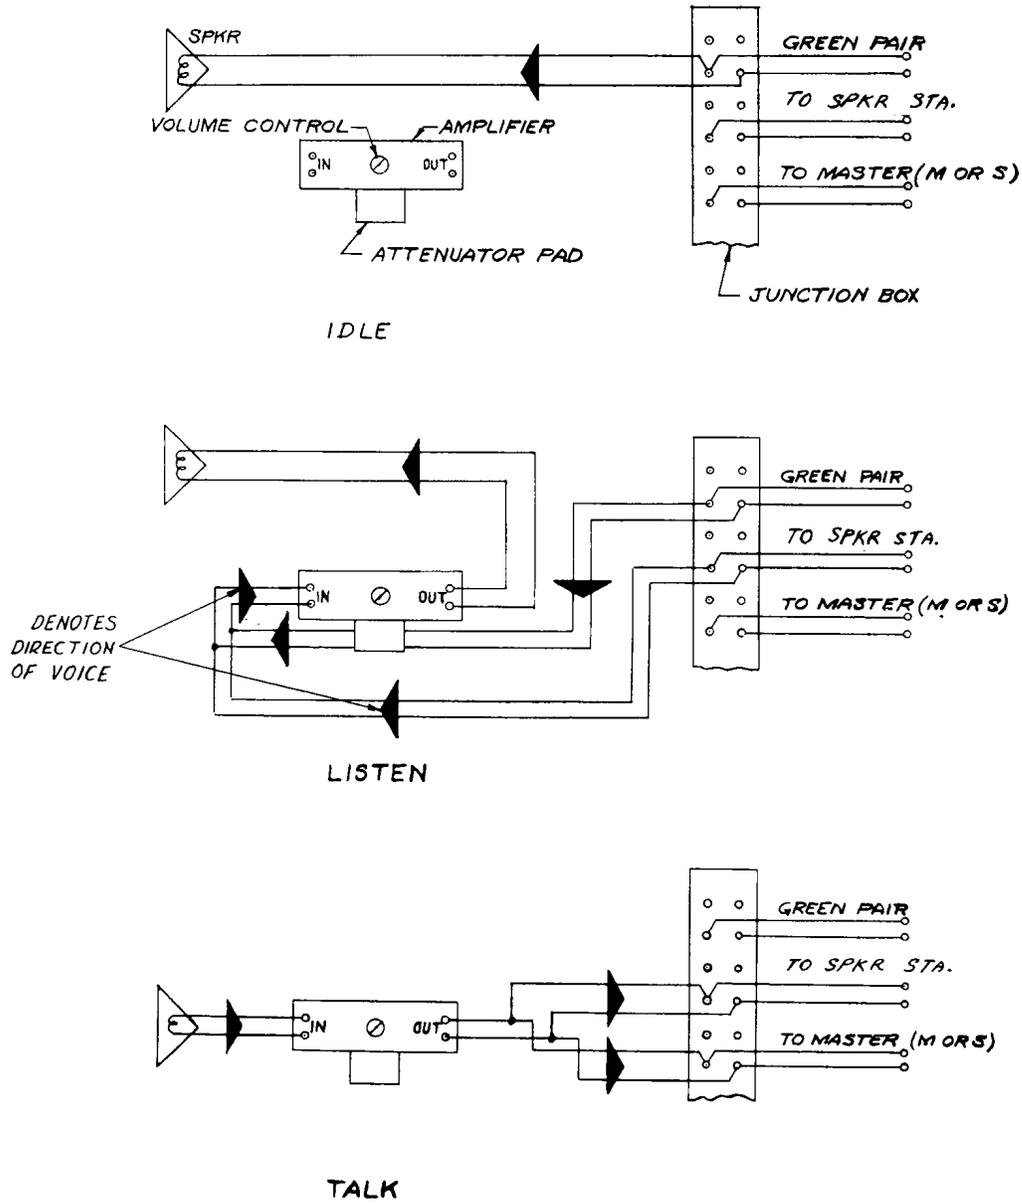

FIG. 13 - High-Level Operation
- Figure 13 - High-Level Operation